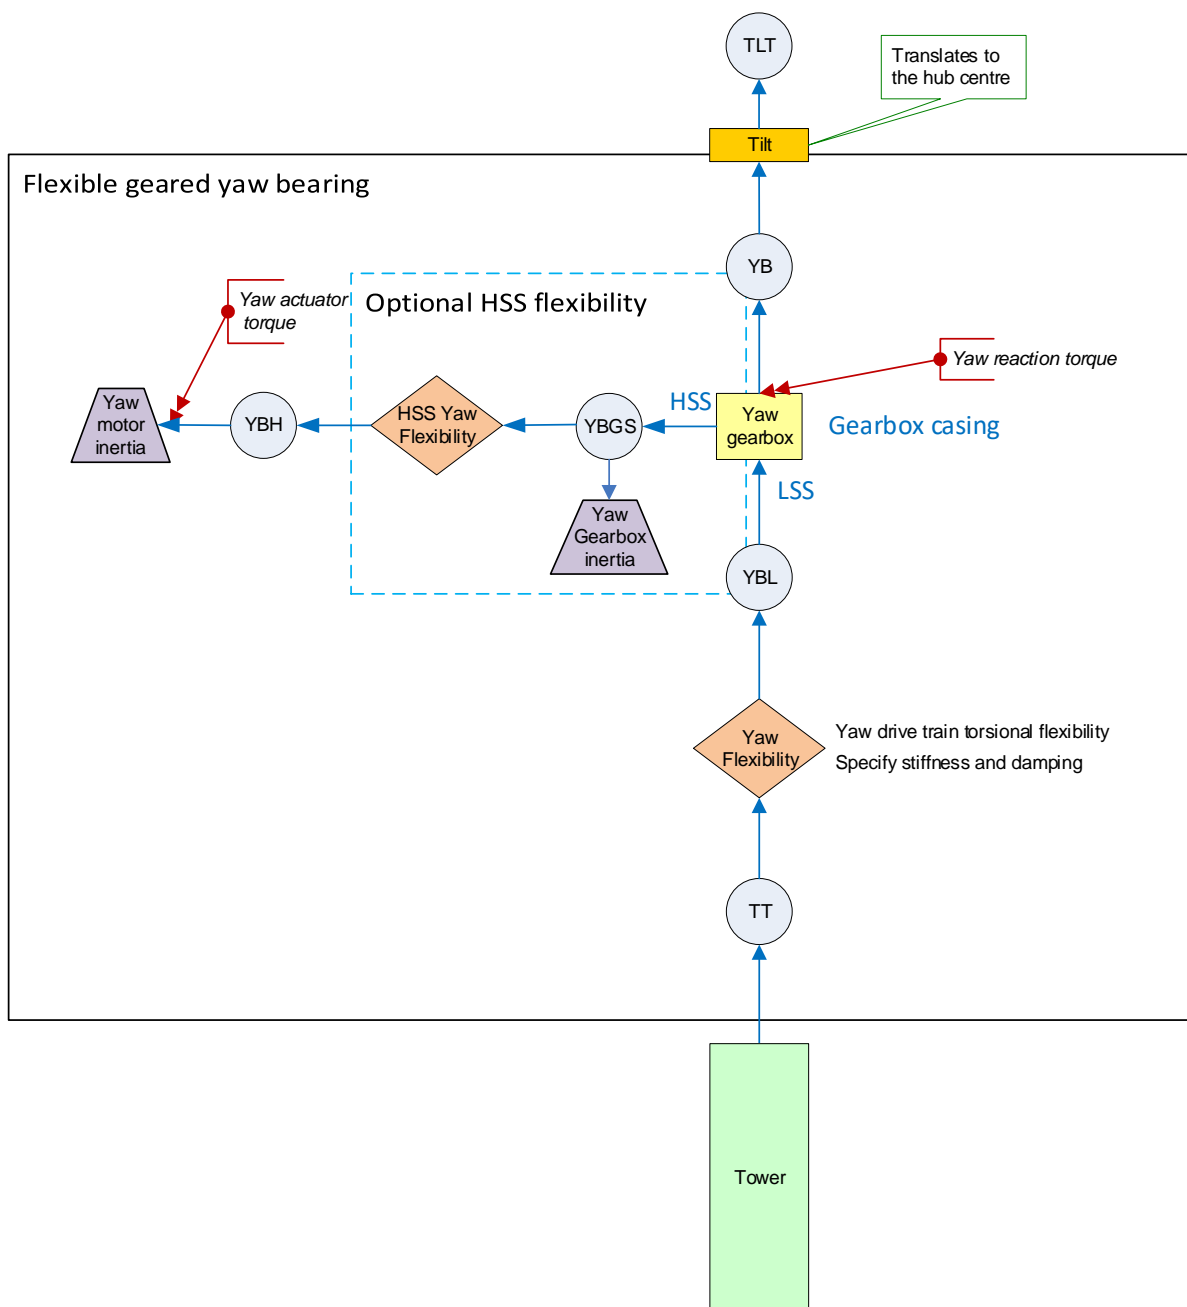

Figure 1: Multibody tree for geared yaw bearing with and without high Speed Shaft (HSS) flexibility
1. A rigid HSS with a single concentrated inertia (figure 1),
2. A torsional flexible HSS with a single concentrated inertia (figure 1),